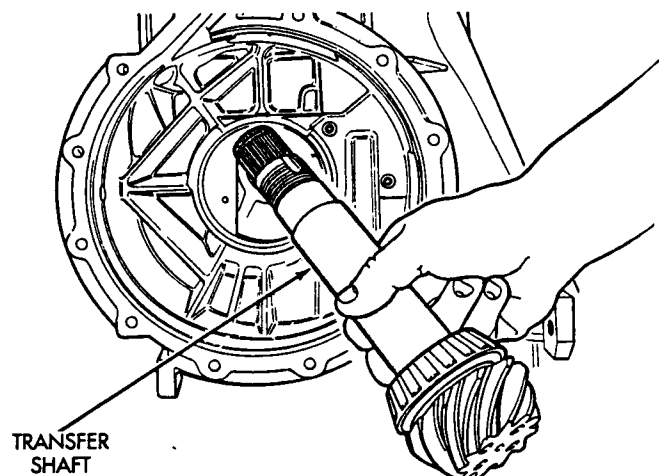

Fig. 23 Transfer Shaft Installation
(27) Install transfer shaft into transaxle case (Fig. 23).